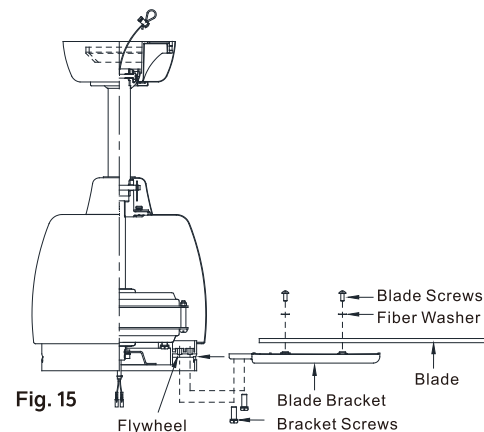

Fig. 15
**Step 1.** Attach the blades to the blade brackets using the blade screws and fiber washers provided. (Fig 15) When mounting blades onto the blade brackets, make sure the blades are flat. Tighten each blade screw to secure, then repeat for each blade.
**Step 2.** Insert a blade bracket into the flywheel. (Fig 15) Align the blade bracket mounting holes with the mounting holes in the flywheel, attach the blade bracket to the flywheel using the bracket screws provided, and tighten bracket screws to secure. Repeat for the remaining blade brackets.